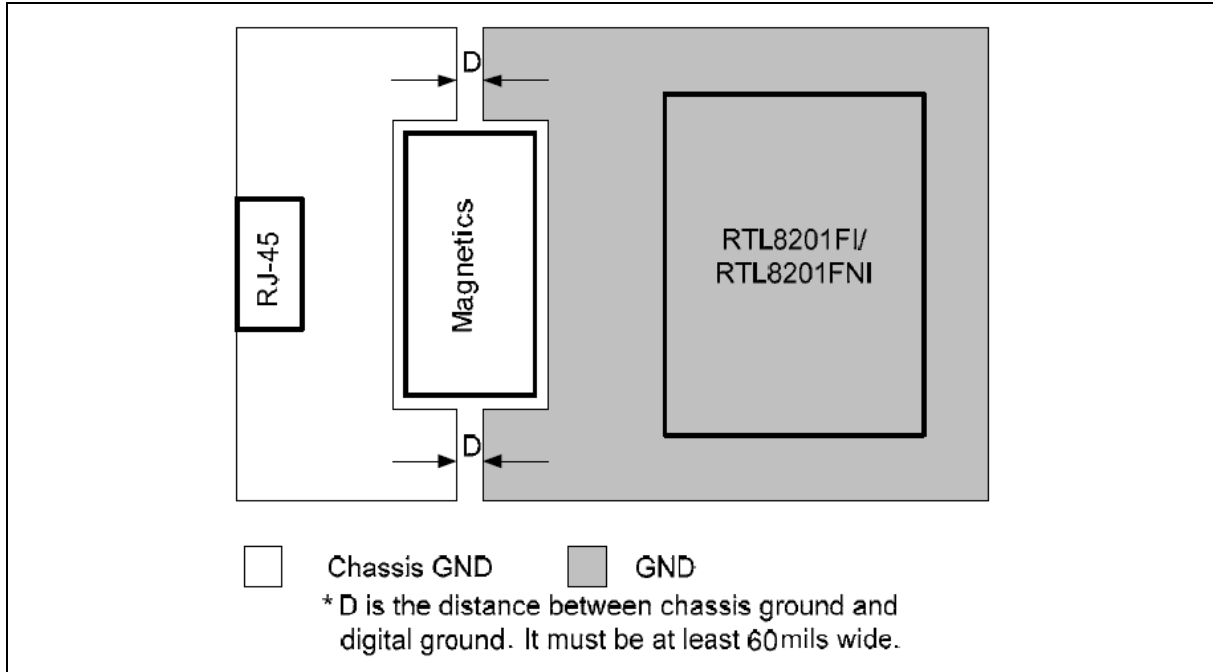

Figure 12-24 Ground Plane Separation
- The Chassis Ground as Figure 12-24 is known as an 'Isolated Ground'. It connects directly to the RJ-45 connector. In addition, a 2 kV high voltage capability capacitor is needed to connect to this chassis ground for ESD protection.